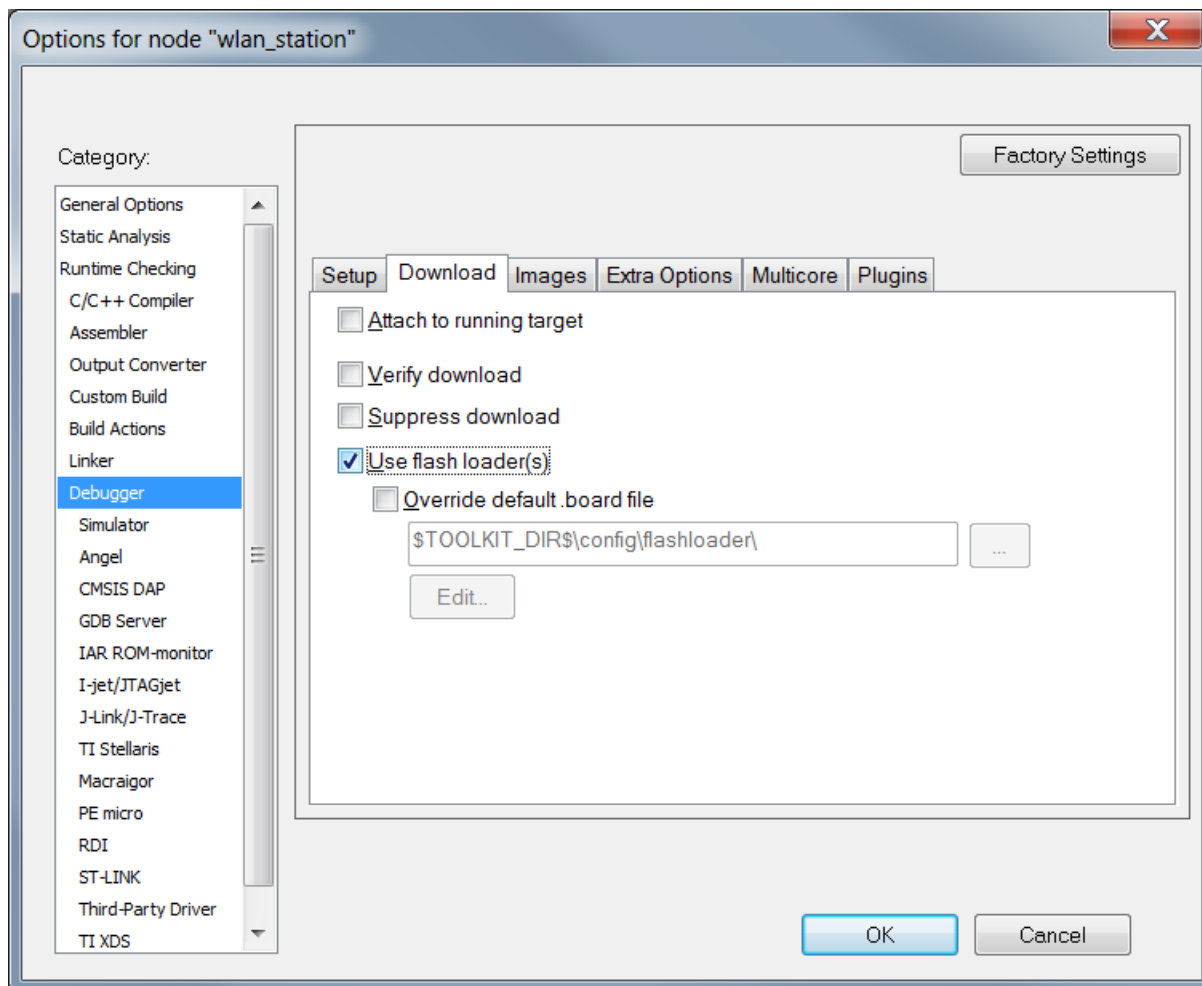

Figure 5-8. Using Flash Loader
2. If working with the CC3220SF device, check the box for "Use flash loader(s)" in the *Debugger* -> *Download* tab, as shown in Figure 5-8.